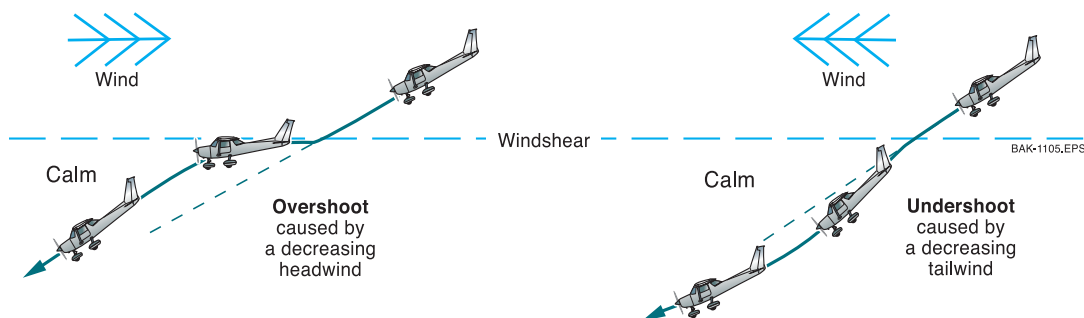

Figure 7-18 Effect of windshear in the descent.
- a decreasing tailwind (Figure 7-18);